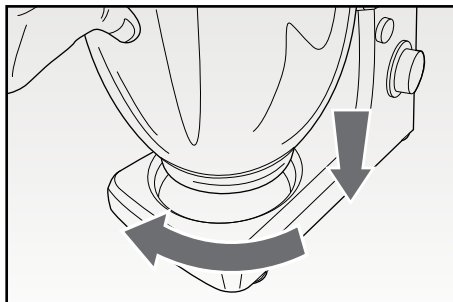

Fig. 3
- Insert the bowl (H) onto the appliance body (G) and rotate it clockwise until it locks (Fig. 3).